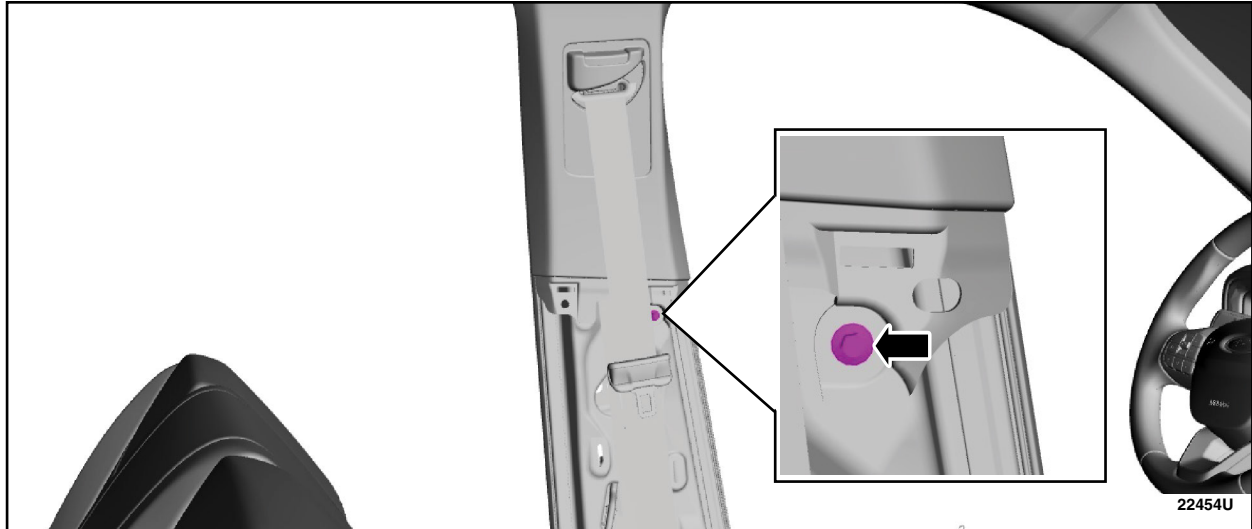

FIGURE 2
5. On both sides remove the B-pillar upper trim panel bolt. See Figure 2.